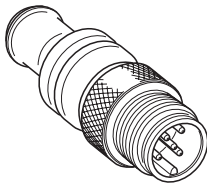
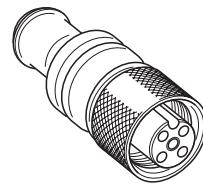

Fig. 13 RES 1
Fig. 14 RES 2
- If two or more system components are connected in a CAN bus system, the first and the last device must be provided with a terminating resistor of 120Ω! **Fig. 13, Fig. 14**